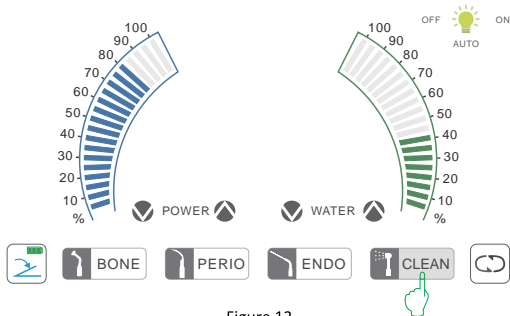

Figure 12
3. Adjust the mode to the cleaning function (see Figure 12);